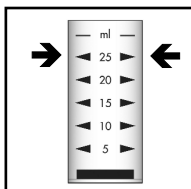

Figure 1
2. Fill the sample cup to the 25 mL mark with the sample to be tested (fig. 1).